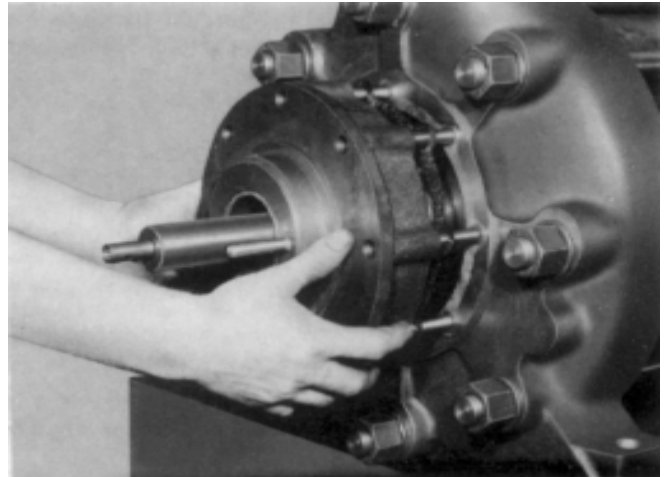

Fig. 34 Removing the stuffing box housing (451).
- Pull stuffing box gland (452) off the shaft.
- Force off and remove stuffing box housing (451). On pumps equipped with cooled stuffing boxes, force off and remove the stuffing box housing (451) including cooling cover (165) (see Fig. 34).